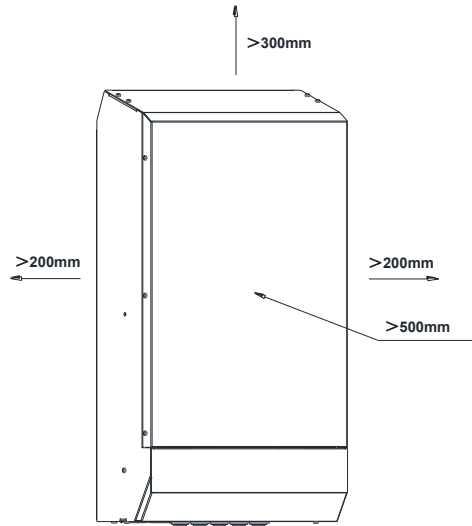

Figure 3-1 Installation space requirements
2. Please refer to Section 2.2.5, and determine the installation surrounding space and mounting holes according to dimension figure in relative product manual. There shall be at least 300 mm of free space around the equipment for cooling purposes. See Figure 3-1.